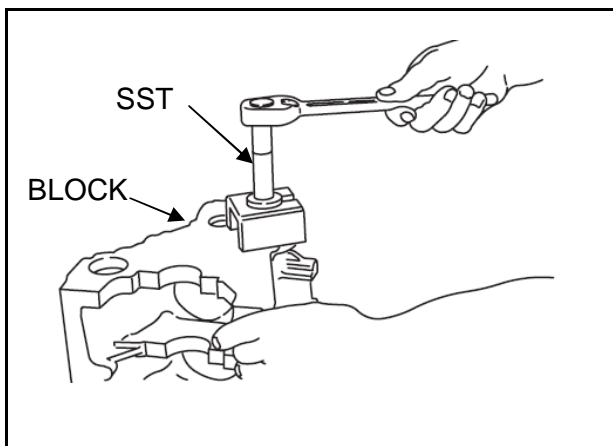

Fig.6-Removing Cam Bearing
1. Remove camshaft bearing, Fig.6.